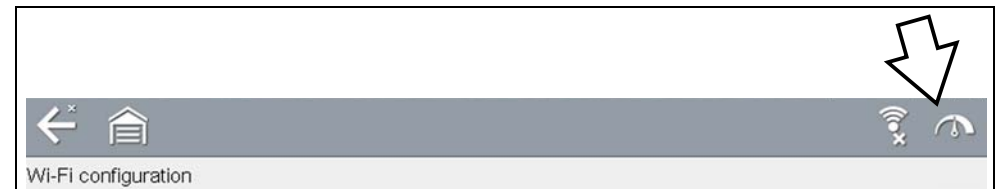

Figure 7-3 Wi-Fi Test Icon
3. From the Wi-Fi configuration screen, select the **Wi-Fi Test** icon to open the network connection test screen (Figure 7-3).